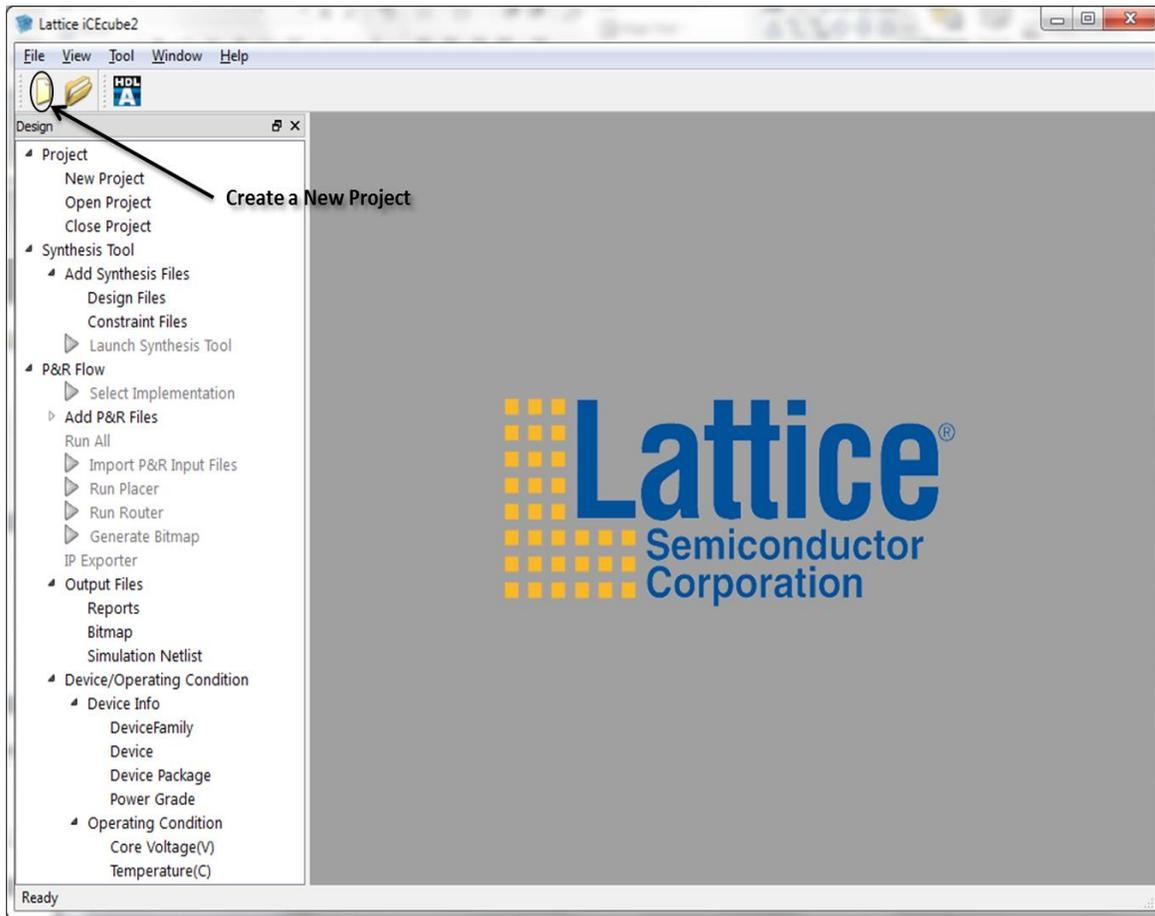
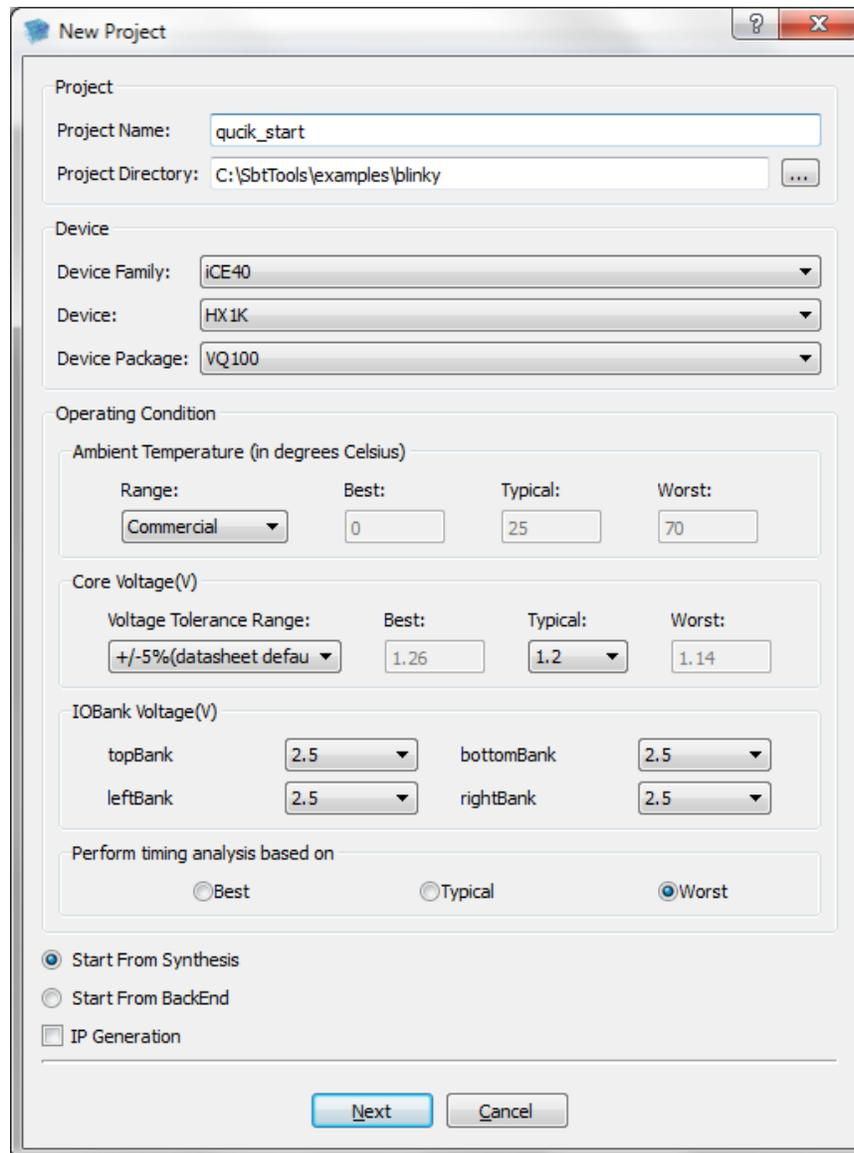

Figure 2: Create a New Project
Figure 3: New Project Setup Form
Starting the iCEcube2 software for the first time, you will see the following interface shown in Figure 2.
The first step is to create a new design project and add the appropriate design files to your project. You can create a new project by either selecting **File>New Project** from the iCEcube2 menu, or by clicking the **Create a New Project** icon as seen in Figure 2. The New Project Wizard GUI is displayed in Figure 3.
5. **Operating Condition** Fields: This section allows you to specify the operating conditions of the device which will be used for timing and power analysis. The **IO Bank Voltage** option shown in Figure 3 is not available for iCE65 family devices.